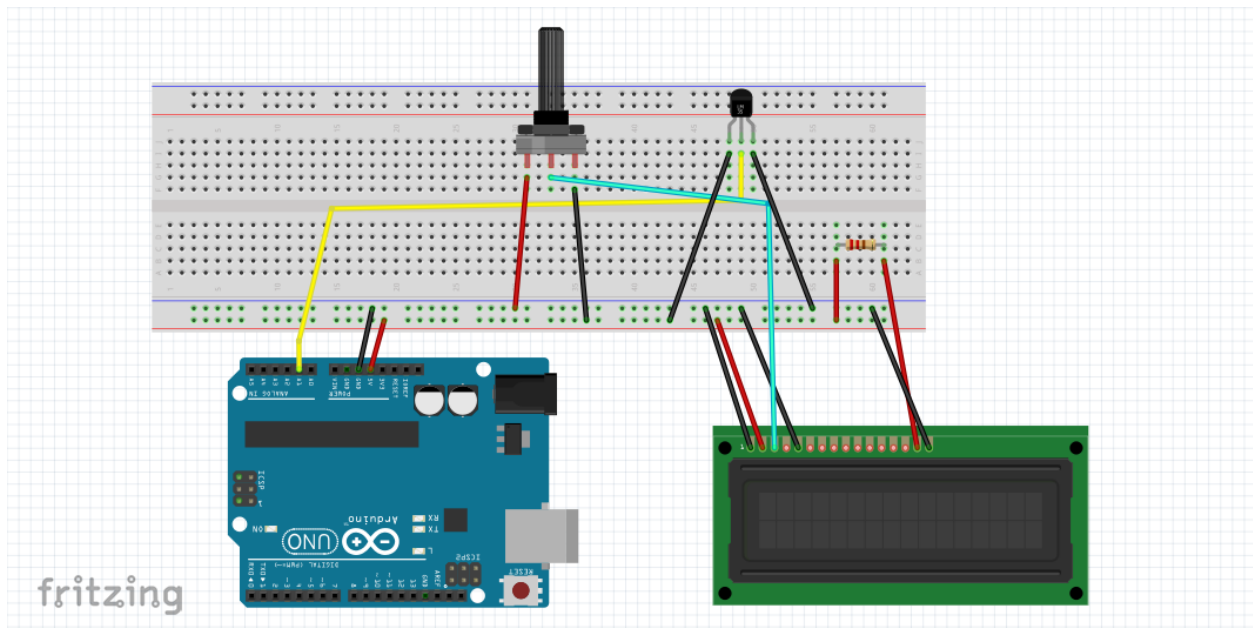

Figure 2.5
- Next, we shall connect the signal pins of our thermistor and potentiometer to pin A1 on the Arduino and Vo pin on our LCD respectively as shown in figure 2.5 below.